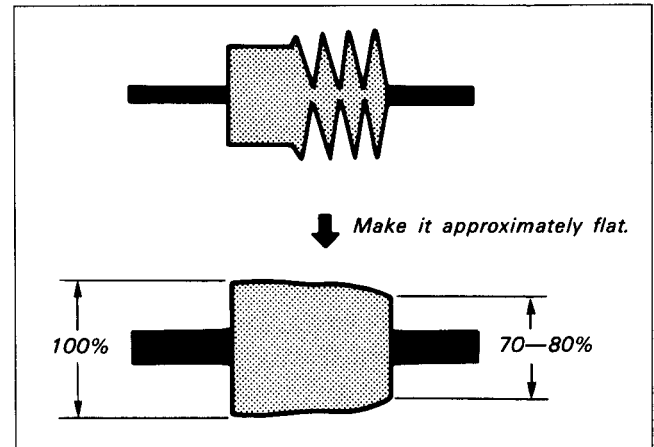

Fig. 7-75.
- 3) Rotate No.5 guide counterclockwise to make the RF waveform on the exit side approximately flat. (See Fig. 7-75.)